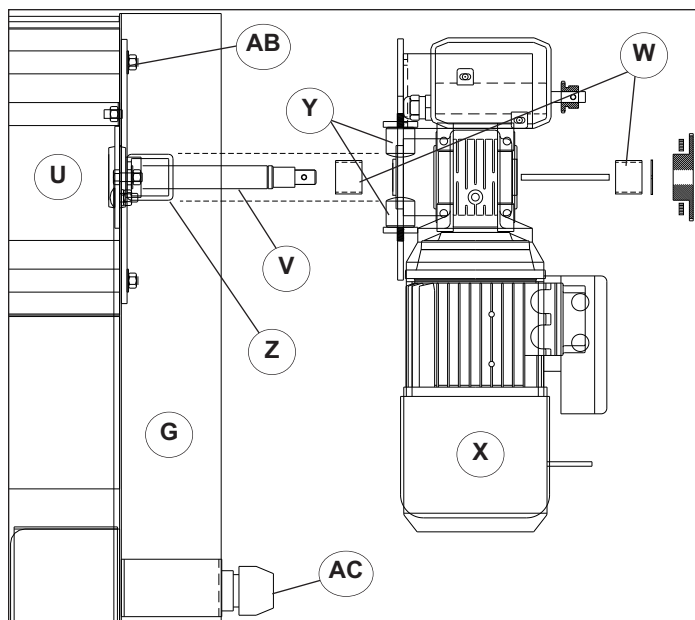
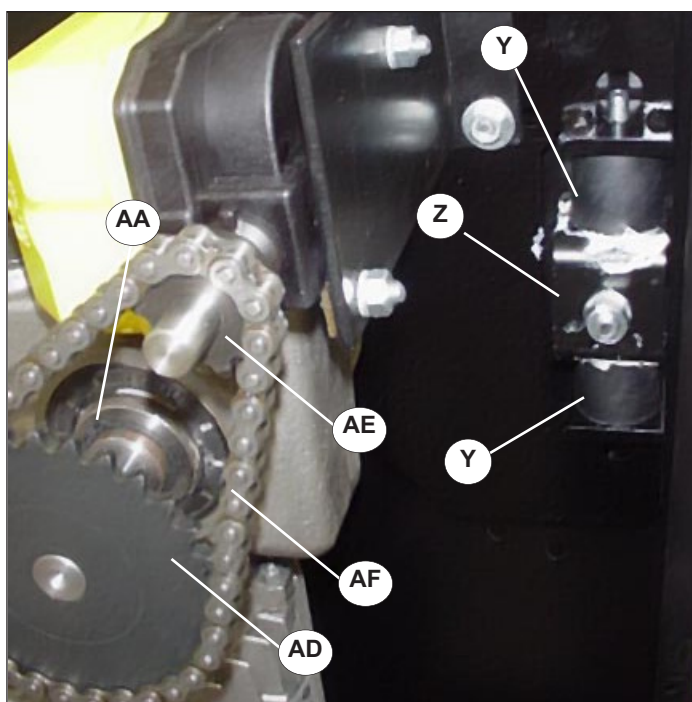

Figure 8.5
Figure 8.6
Turn roller tube to align the drive shaft (V) and gear keyway, **Figure 8.5**.
11. Install spacer (W) onto the drive shaft, **Figure 8.5**.
12. Install motor assembly (X) onto the drive shaft. Some force may be required to get the bumpers (Y) over the bumper block (Z), **Figures 8.5 & 8.6**.
15. Install spacer onto the roller tube drive shaft, **Figure 8.5**.
16. Gearbox case should be flush with the end of the retaining ring groove. Install retaining ring (AA) into shaft groove, **Figures 8.5, 8.6**.
17. Install 30 tooth sprocket (AD) onto the drive shaft until it hits the shoulder. Loosen limit switch bracket and align 10 tooth sprocket (AE) on the limit switch shaft using a short straight edge. When aligned, lock-tight and tighten the 1/4" [6] set screws onto the flat spot of the shaft with an 1/8" allen wrench to 75 in/lbs [8.5 N-m].
18. Install #35 chain onto sprockets (AF), by lining up the chain so the connector falls onto the large sprocket, **Figure 8.6**.